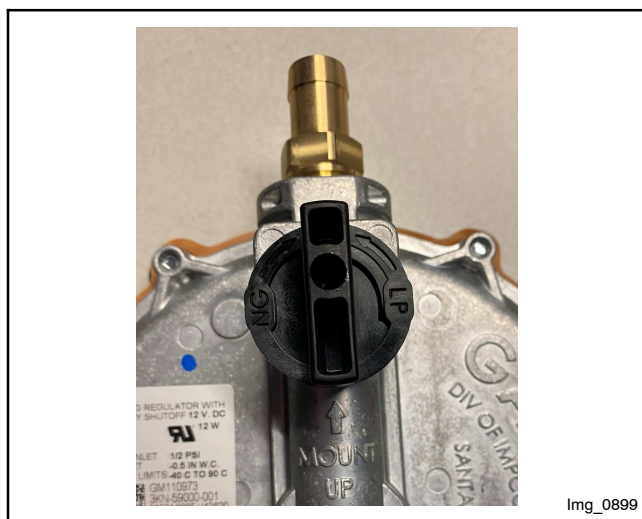

Figure 1-14 Knob Position, NG
- a. For natural gas (NG), turn the selection knob all the way clockwise. The knob lines up with the UP arrow on the regulator body as shown in Figure 1-14.